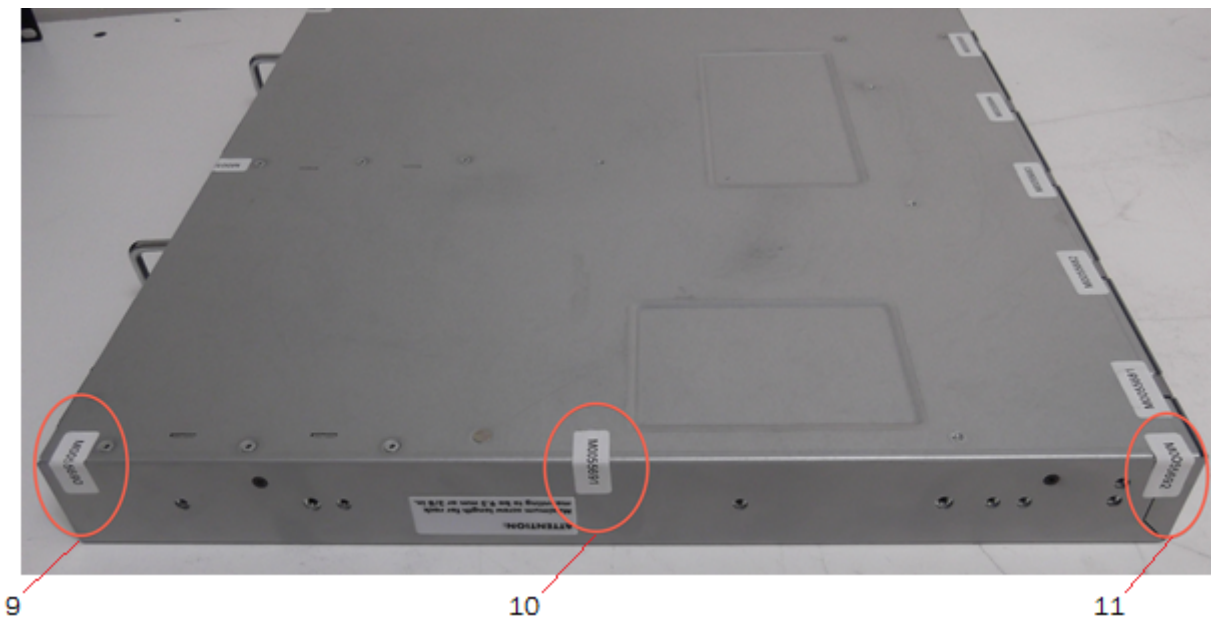

Figure 21 VDX 6740-24, VDX 6740-48 and VDX 6740-64-ALLSW bottom right side seal locations
3. Apply three (3) seals, 9 to 11, across the seam between the right side of the top cover and the bottom of the chassis. Each seal must wrap across a 90 degree angle from the bottom of the chassis to the side of the top cover. See Figure 21 on how to position each seal.